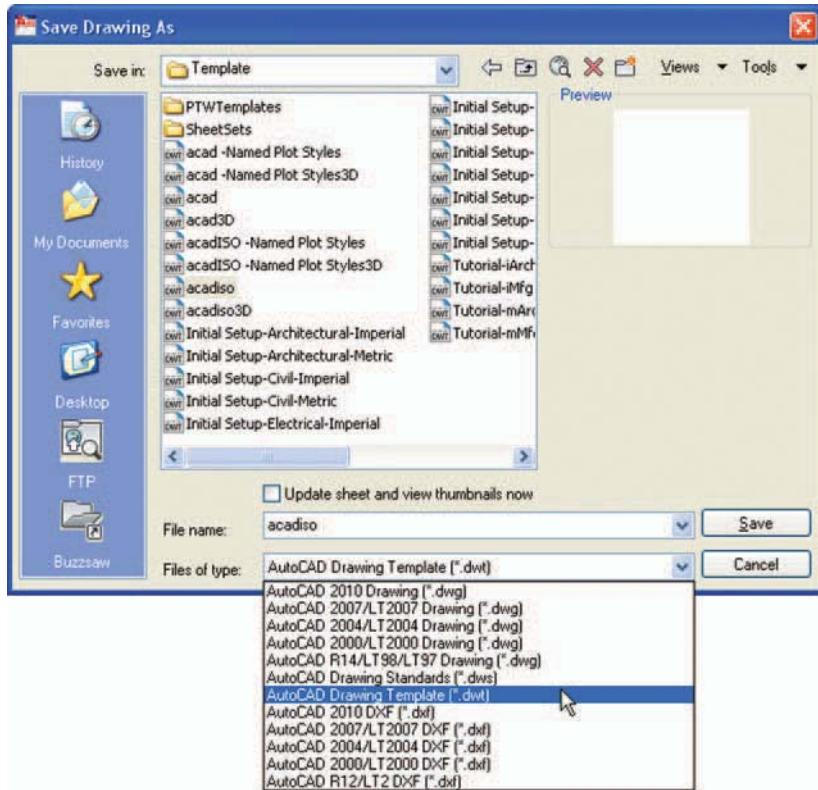

Fig. 4.21 Saving the template to the name **acadiso.dwt**
2. In the **Save Drawing As** dialog which comes on screen (Fig. 4.21), *click* the arrow to the right of the **Files of type** field and in the pop-up list associated with the field *click* on **AutoCAD Drawing Template (*.dwt)**. The list of template files in the **AutoCAD 2010\Template** directory appears in the file list.